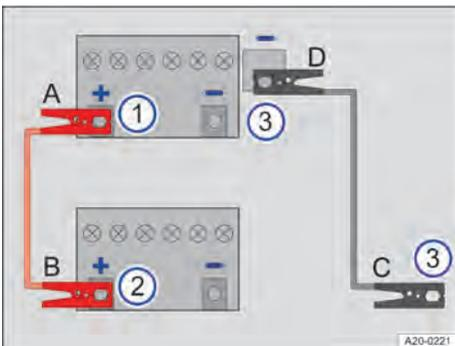

Fig. 175 How to connect the jump leads.
The jump leads should be connected only in the order **A – B – C – D** → Fig. 175.
2. Remove the cover from the positive terminal on the 12-volt vehicle battery → Fig. 175 ① → .
4. Connect the other end of the *red* jump lead **B** to the positive terminal + of the vehicle battery providing assistance → Fig. 175 ②.
5. Connect one end of the *black* jump lead **C** preferably to a suitable jump start connection point (earth connection) or otherwise to a solid metal part that is securely bolted onto the cylinder block, or to the cylinder block itself of the vehicle providing assistance → Fig. 175 ③.
6. On the vehicle with the flat 12-volt battery, connect the other end of the *black* jump lead **D** preferably to the jump lead connection point (earth connection), or otherwise to a solid metal part that is securely bolted onto the cylinder block, or to the cylinder block itself → Fig. 175 ③ → .
3. When the engines are running, the jump leads should be removed only in the order **D – C – B – A** → Fig. 175.